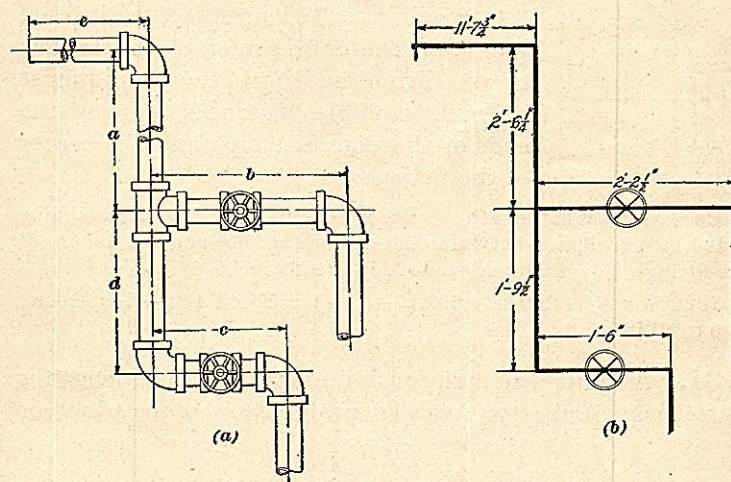

FIG. 20
29. When taking measurements for piping, the center-to-center distances of the different pipe lines are measured first, and then allowance is made for the fittings. Fig. 20 (a) shows a sample of pipework composed of four
elbows, one tee, two valves with wheel handles, and seven pieces of pipe. Where a valve is placed in a pipe, it is customary to consider the two pieces of pipe to which it is attached, and the valve, as one piece; this accounts for the statement that there are seven pieces of pipe. The dimensions marked *a*, *b*, *c*, *d*, and *e* are measured, and transferred for reference purposes to a sketch similar to that shown in Fig. 20 (b). In locating the valves, it is customary to use a ready-made nipple on one side, and then to cut a piece for the other side sufficiently long to obtain the proper length of *b* or *c* when the whole is screwed up.